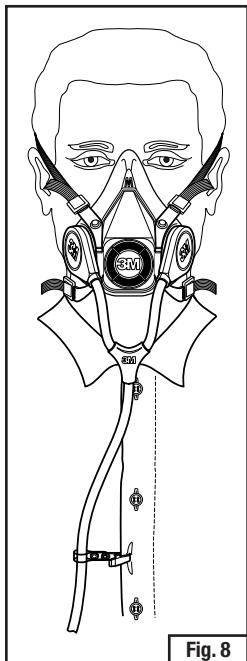

Fig. 8
5. On the dual airline breathing tubes SA-1500 or SA-1600, use the clip to secure the tube to your clothing (Fig. 8).